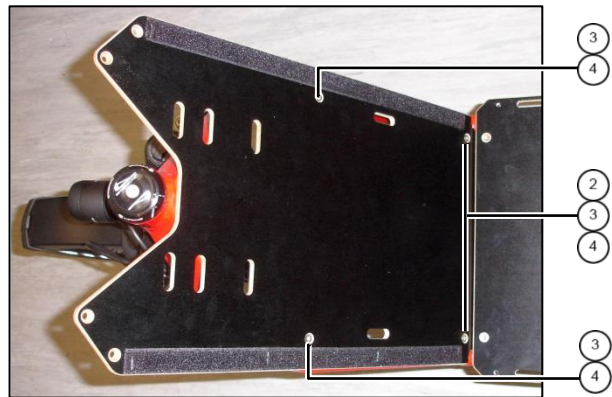

fig. 4: front plate
4. Put 2 plastic spacers 6x15x5 ^② in place. Mount front plate ^⑧ with 4 bolts M5x25 ^③ and 4 nuts ^④ (fig. 4).